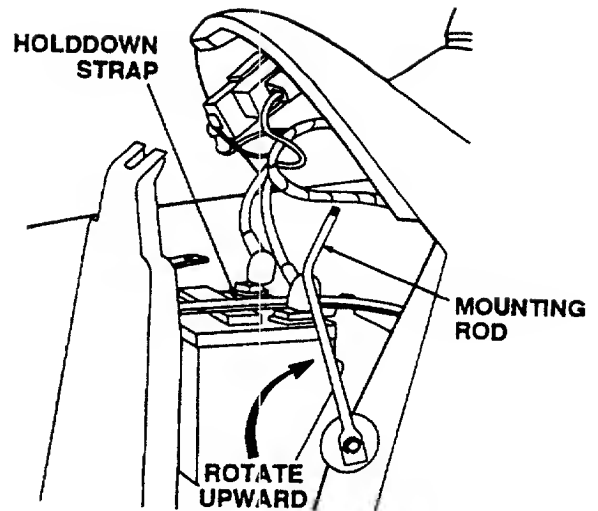

Figure 27
3. Rotate the mounting rod fully upward to provide necessary clearance for battery removal. (Refer to Figure 27.)
7. Replace the battery holddown strap. (Refer to Figure 27.)